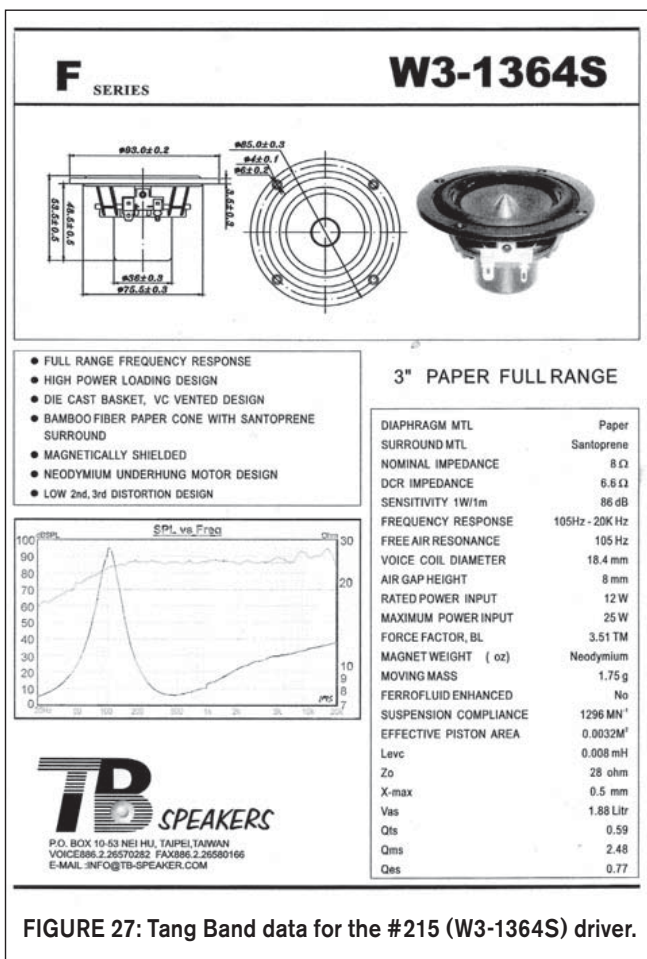
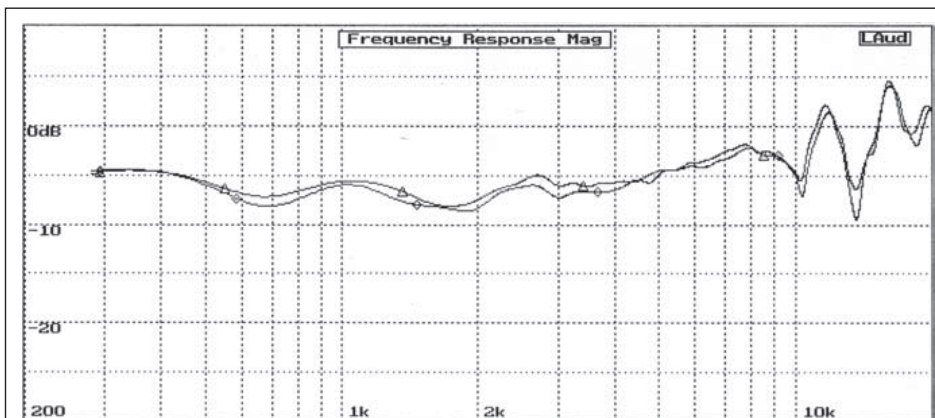

FIGURE 27: Tang Band data for the #215 (W3-1364S) driver.
FIGURE 28: Measured performance match of pair of #215 drivers.
Examining the published responses for the available 3" TB drivers, I selected the W3-1364SA unit (reference #215) and purchased a pair for testing. **Figure 27** shows the TB data for the W3-1364S driver. I could not find data for the W3-1364SA driver and do not know whether there is any major difference. **Photo 6** shows front and rear views of this driver, which uses a die-cast basket and has a fixed aluminum phase plug.
**Figure 28** shows the measured performance for my pair of #215 drivers—not quite what the TB data of **Fig. 27** had
led me to expect. Note that my data is with both the #215 mid/tweeter and #213 woofer mounted in the test baffle together. The presence of the woofer will roughen up the midrange response and is probably partially responsible for the wiggles in the response up to 3kHz. The roughness in this range is likely worse than displayed in **Fig. 28**, where the resolution is limited by the FFT test approach. The rising response and roughness above 3kHz is predicted by the TB response of **Fig. 27**; however, the roughness is far worse.